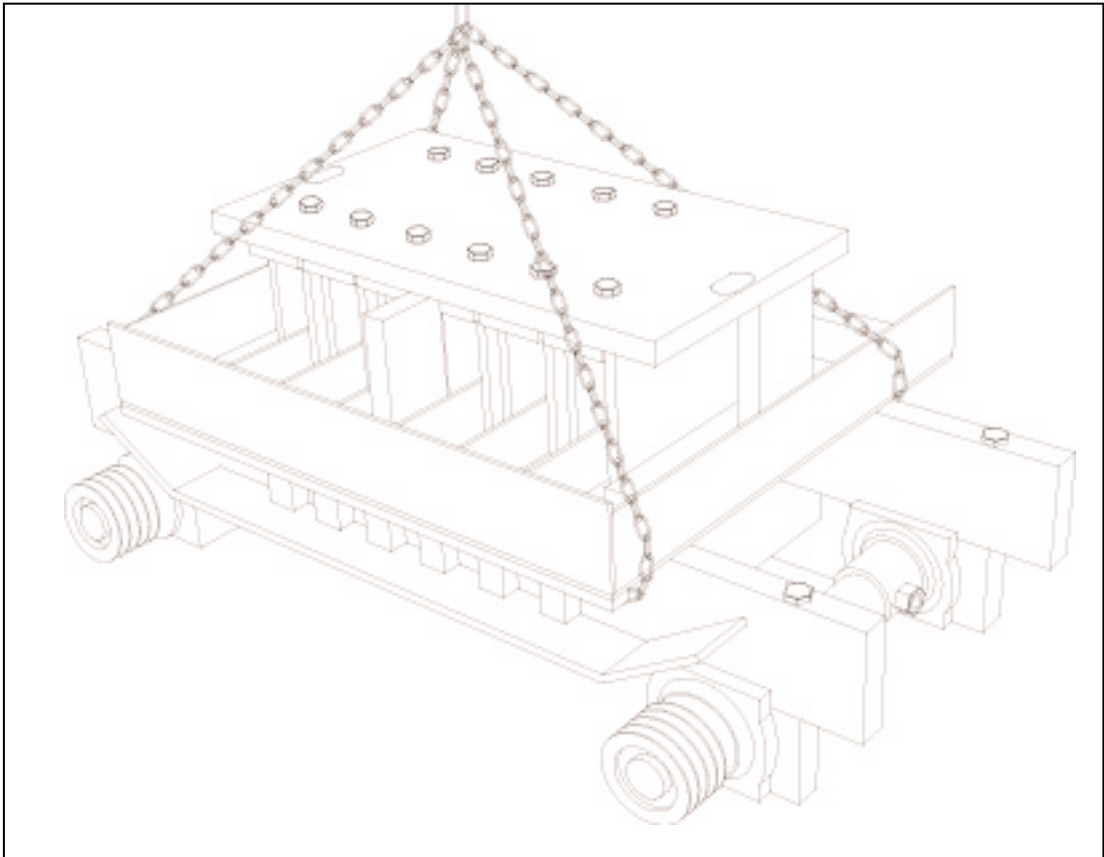

Figure 5.12 MOLD IS CHAINED, READY TO BE PLACED IN MACHINE.
- 5.4.10 Chain mold with stripper head as shown in figure 5.12 below. The weight of a complete mold is approximately between 3500 lbs [1600 Kg] and 4000 lbs [1800 Kg]. We recommend the use of an overhead crane. Mold is now ready to be placed in machine.